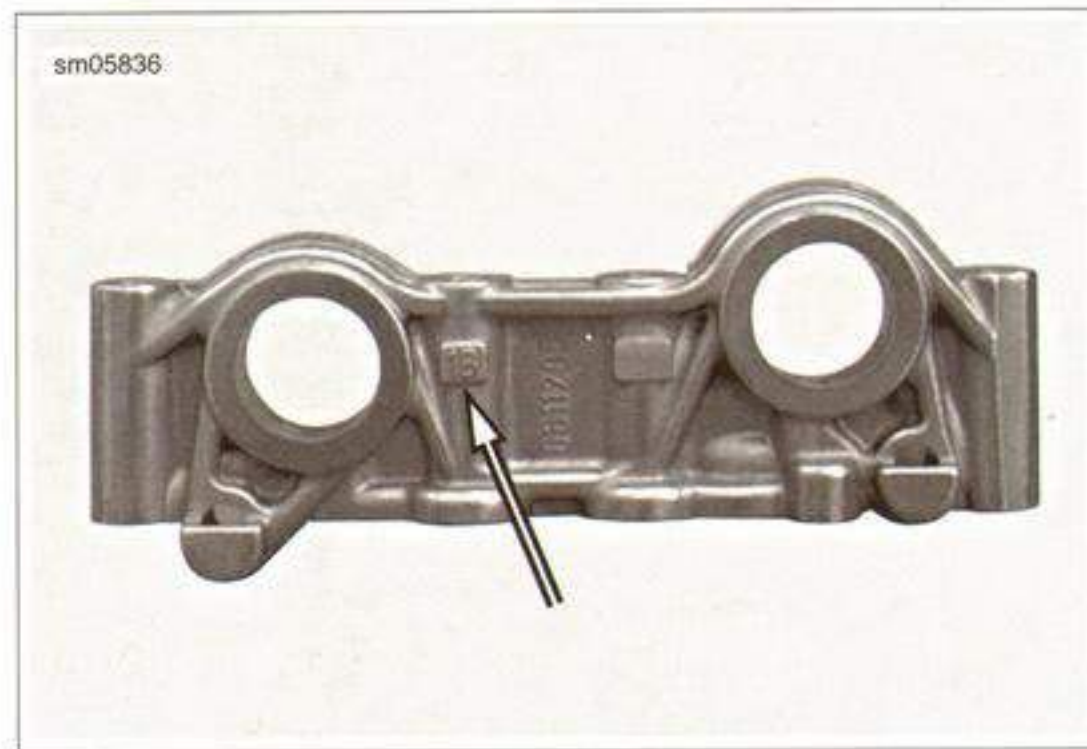

Figure 3-77. Camshaft Bracket Identification
- Before installing camshaft assembly, be sure valve shims (8) are installed in proper locations in the top of each valve spring retainer with lettered side down.
- See Figure 3-77. The camshaft bracket identification mark is located in one of the positions shown. Use identification marks when assembling camshaft assemblies.